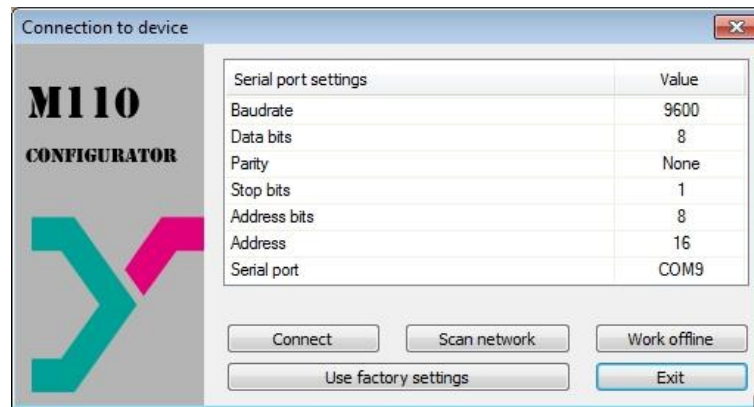

Fig. 7.1 M110 Configurator start window
- In the window ‘Connection to device’ enter the values from the Table 7.1 or click the key ‘Use factory settings’ (see Fig. 7.1);